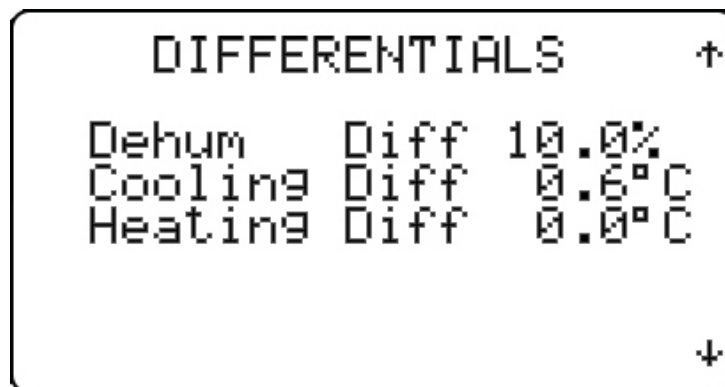

Figure 45
4.3.4.2.1 Tuning - Differentials (Figure 45)
Pressing the **DOWN** key will now display the DIFFERENTIALS screen (Figure 45). This screen shows the Cooling, Heating and Humidity Switch Differentials. This differential is the range between the making and breaking of the switch. The range of the Cooling and Heating Differential is -17.8°C to 12.3°C. The range of the Humidity Differential 0.0% to 9.9%.